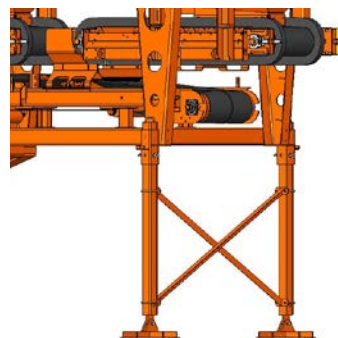

Fig. 10: Base do dosador adicional / Additional feed bin base
- 1º. montar a base do silo adicional, fig. 10;
- 1st. Assemble the additional feed bin base, fig. 10.
- 1º. armar la base del silo adicional, fig. 10;
- 1º. monter la base du silo supplémentaire, fig. 10;